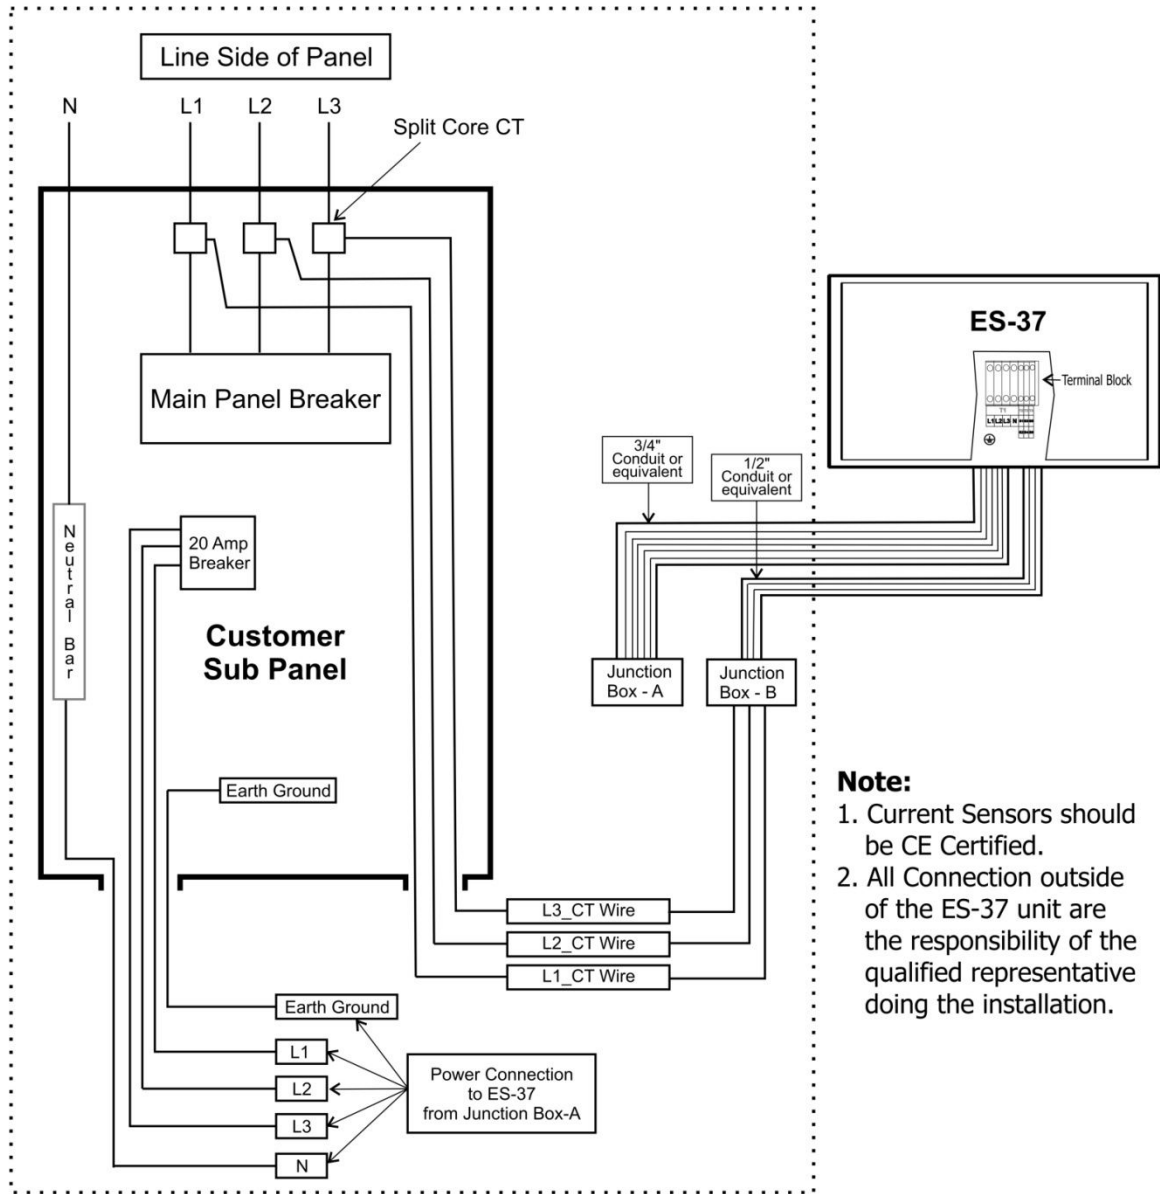

Figure-2
1. Remove Sub Panel cover exposing internal wiring and breakers. (Check Figure- 2)
5. Connect power cables to Terminal Block of ES-37 as per items 1, 2, 3 above.
1. Remove main breaker Panel covers exposing internal wiring and breakers. (Check Figure-2)